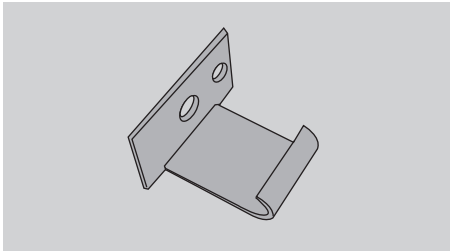

Figure 3
- ✓ 2 x Catch Hook for Clamping Latch, As indicated in Figure 3.